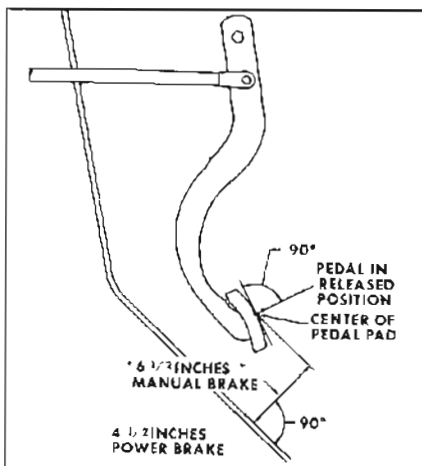

Figure 9-10—Brake Pedal Height
9. Install J-21231 through adjusting hole to move actuator off adjusting screw. See Figure 9-10.